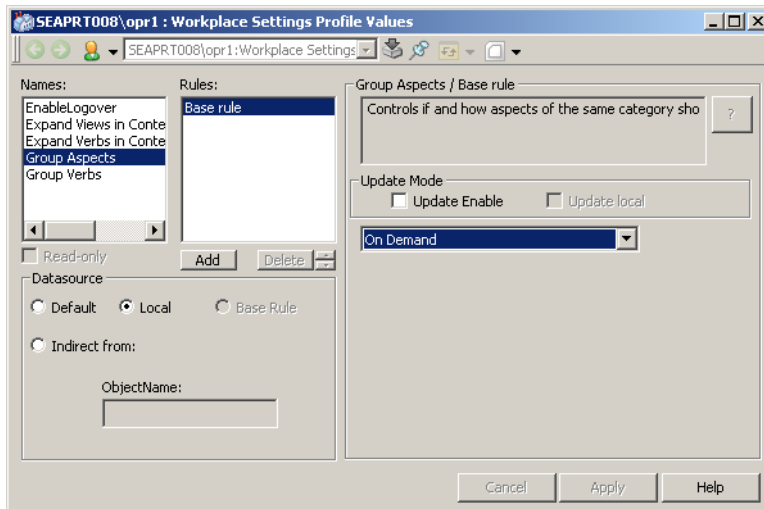

Figure 138. Profile Values Aspect Dialog Box
4. In the Profile Values dialog box (see Figure 138):